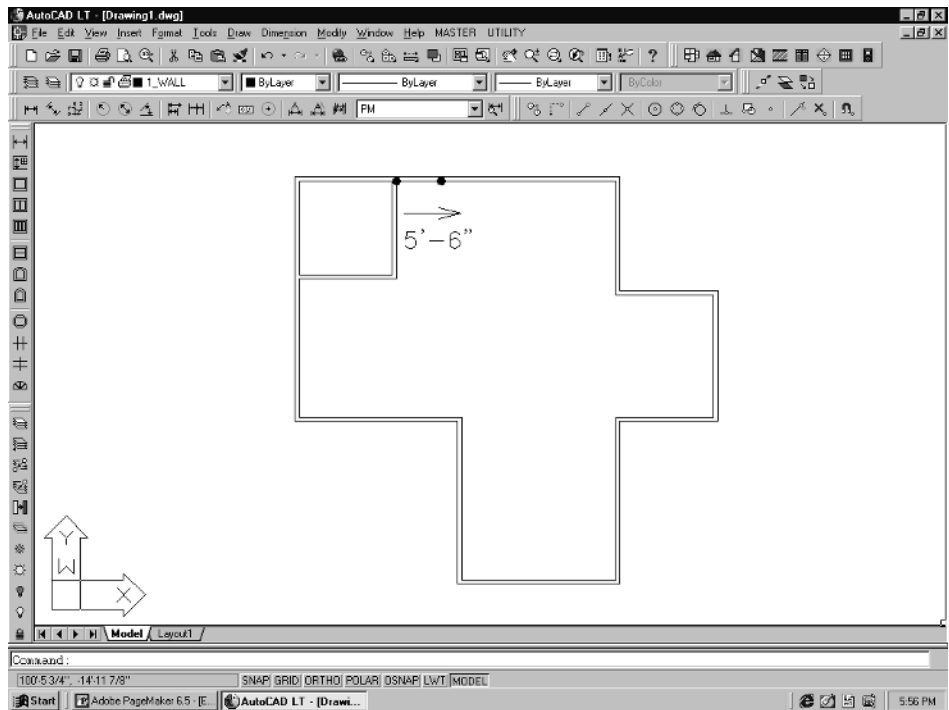

Figure 6-15
12. Pick **Interior Walls** again from the icon menu. For the *from point* prompt, pick the inside wall line as shown in Figure 6-15. Pull the cursor to the right **5'-6"** and pick for the beginning point of the interior wall. (Or pull right and type **5'6** and pick **Enter**.)